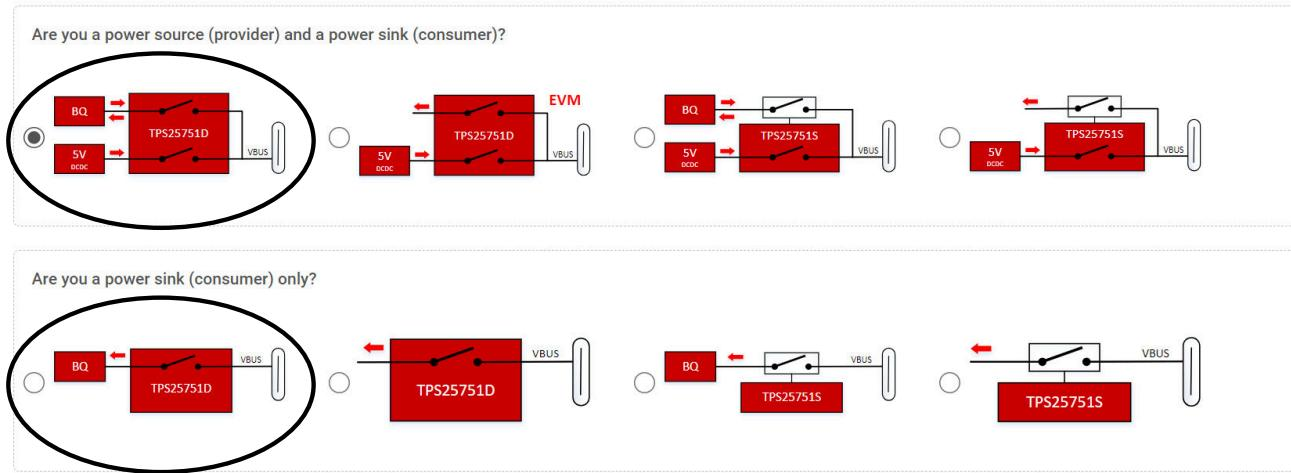

Figure 4-10. TPS25751D + BQ Configurations
1. Open the Application Customization Tool and select one of the following TPS25751D + BQ configurations shown in Figure 4-10.